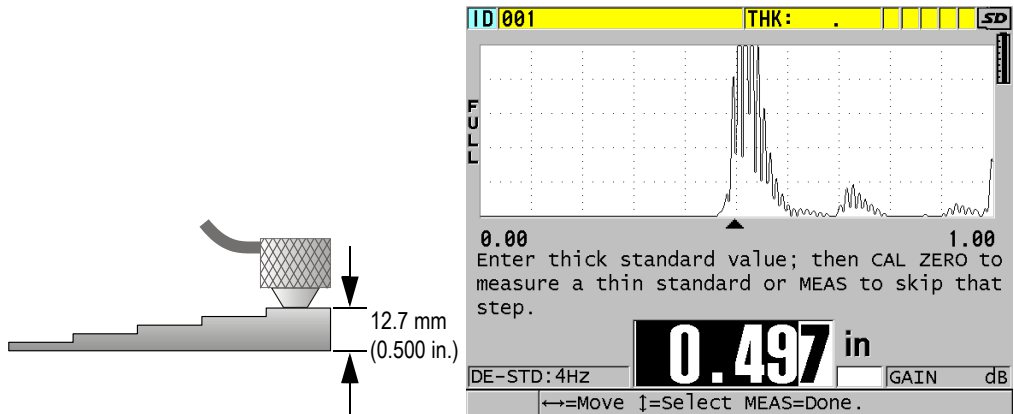

Figure 5-4 Performing the material sound velocity calibration on a 5-step test block
1. To perform the material sound velocity calibration (see Figure 5-4 on page 74):